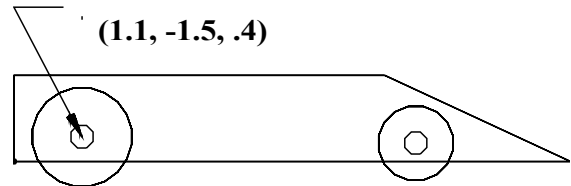

FIG. 11
Step 14. In the Side View, move cursor to the center of the rear wheel, coordinates (1.1, -1.5, .4) and click for the center of the rear wheel, **Fig. 11**.